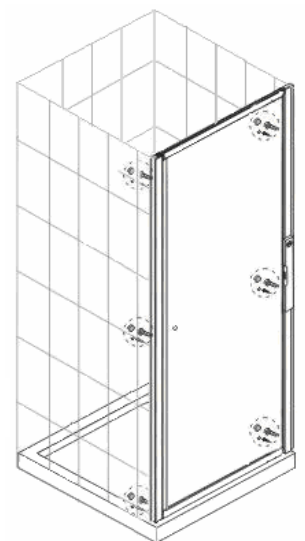

Fig 2
7. Using a 3.5mm drill bit, drill through the frame profile into the wall profile **BB1201** and secure with screws **BB4203**, with screw cover cap clips **BB2203** and push on screw cover caps **BB2202**. Fig 2 & 3